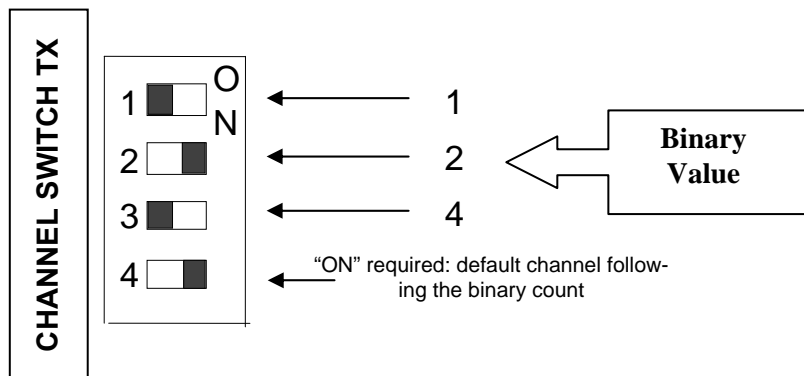

Figure 50 – Backplane DIP switches example – Channel 5 selected
2. Select the active or, the lowest (in the case of multi-channel base) frequency channel (via dip switch, refer to Figure 50).